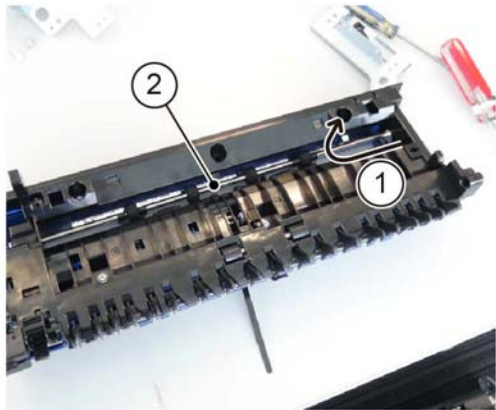

Figure 8 Exit 2 roll removal
14. Remove the exit 2 roll, **Figure 8**:
- a. Move, then release the exit roll in the direction of the arrow (1).
- b. Remove the exit roll (2).